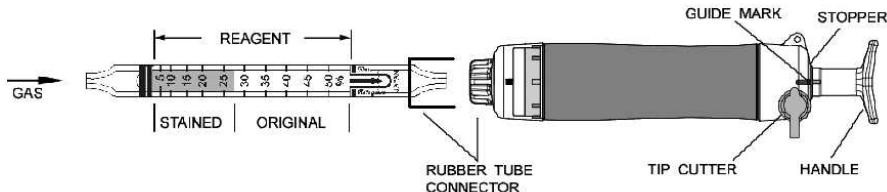

Fig.1
- ① Break both ends of the detector tube.
- ② Insert the detector tube into the aspirating pump securely as shown in Fig.1. (Arrow mark shall point to the pump.)
- ③ Align the guide marks on the shaft and stopper of the aspirating pump.
- ④ Pull the pump handle at a 1/2 stroke until it locks and wait for 1.5 minutes or until the completion of sampling is confirmed with the flow indicator of the pump (See descriptions about the flow indicator in the instruction manual of the pump).
- ⑤ On completion of sampling, read the scale at the maximum point of the stained layer.